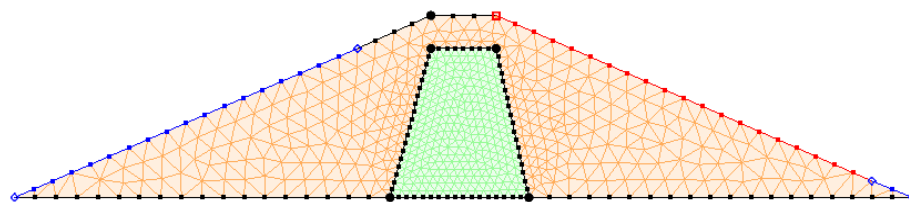

Figure 10 The 2D mesh has been created
15. Click the **Map** → **2D Mesh**  macro at the top of the GMS window (or select *Feature Objects* | **Map** → **2D Mesh**) to create the 2D mesh (Figure 10).